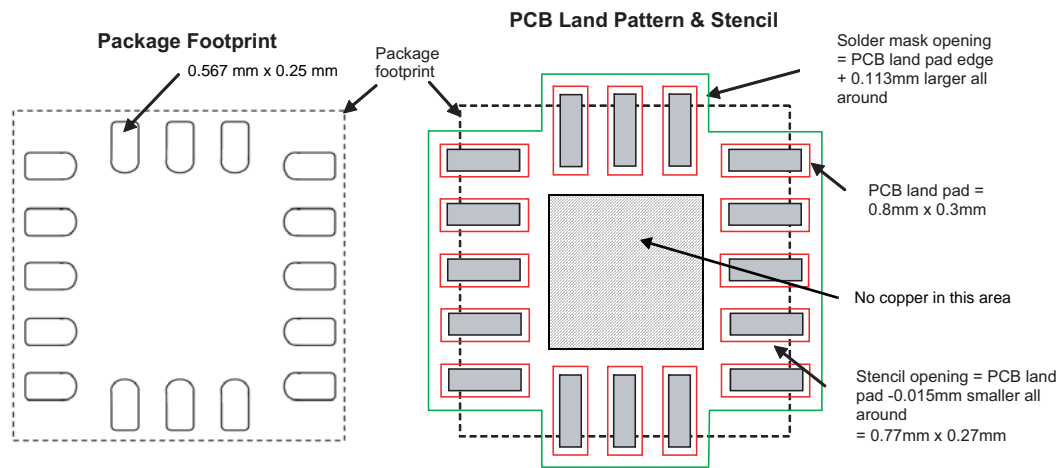
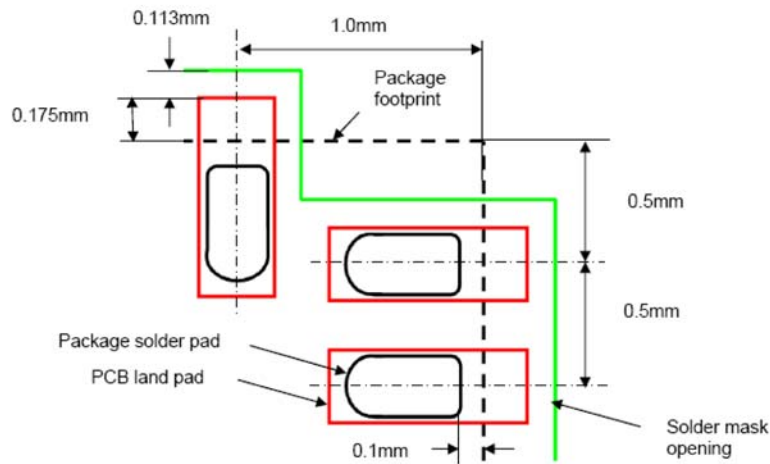

Figure 20. Recommended PCB land pattern, solder mask, and stencil opening near package footprint
Figure 21. Detailed dimensions
1. The PCB land should be designed with Non-Solder Mask Defined (NSMD) as shown in Figure 20 and Figure 21.
3. PCB land pad is 0.8 mm by 0.3 mm as shown in Figure 20 and Figure 21.